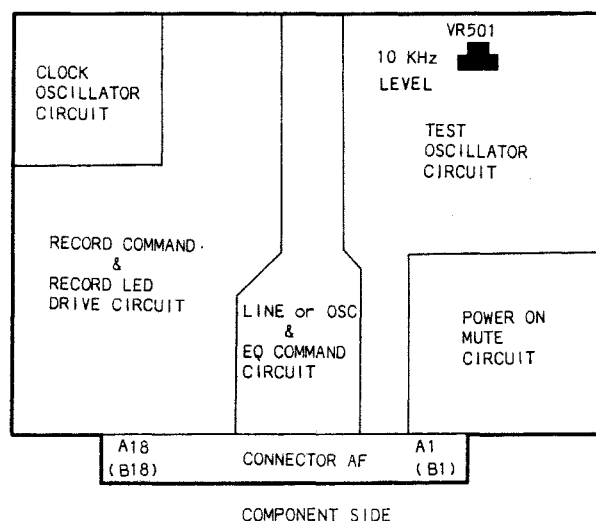

Figure 7-12 Location of AMP. Control Electronics
3. Set the TEST OSC switch to the 10 K position and adjust VR 501 on the Amplifier Control P.C.B. (shown in Figure 7-12) for 0 dB on the VU meter.